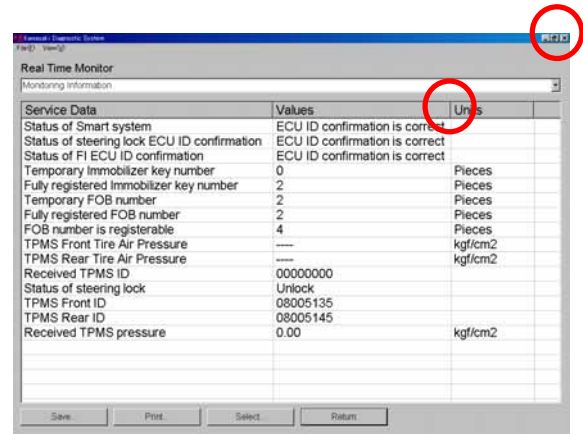

Fig. 5-11 Real Time Monitor
- To see the screen more clearly, you can maximize the screen and enlarge the column widths. Fig. 5-11.
- Select Save. Fig. 5-11
Select *Print*. Fig. 5-11